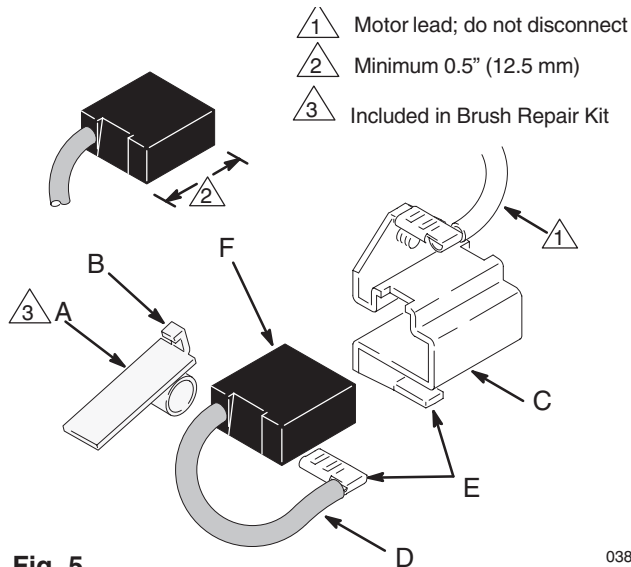

Fig. 5 03881
4. Fig. 5. Push in spring clip (A) to release hook (B) from brush holder (C). Pull out spring clip (A).
5. Fig. 5. Pull brush lead (D) out of terminal (E). Remove brush (F).
2. Fig. 5. Slide brush lead (D) into terminal (E).